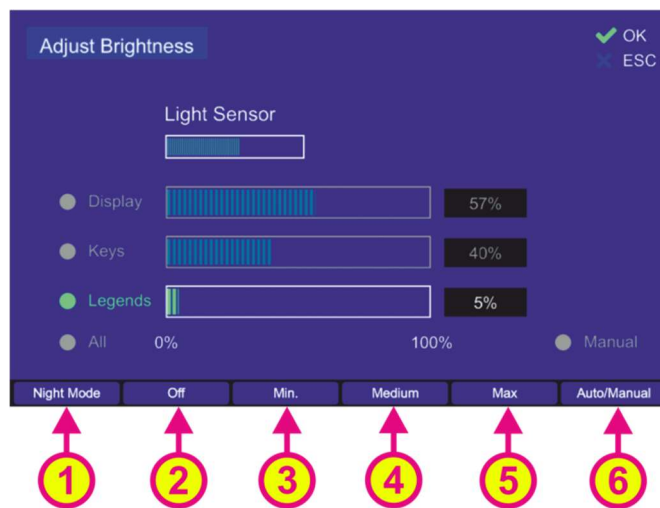

Figure 187 "Adjust Brightness Dialog"
- Use the hotkey “Night Mode” (s. Figure 187, number 1) to switch over to the night mode manually.
- The hotkey "Off" (s. Figure 187, number 2) is only available if "Legends" is selected. Pressing this hotkey deactivates the illumination of the legends.
- Use the hotkey "Min." (s. Figure 187, position 3), "Medium" (s. Figure 187, position 4) and "Max." (s. Figure 187, position 5) in order to set the appropriate luminosity quickly.
- Use the hotkey "Auto/Manual" (s. Figure 187, position 6) in order to set the automatic or manual brightness adjustment mode. The currently selected adjustment mode is indicated above this hotkey.